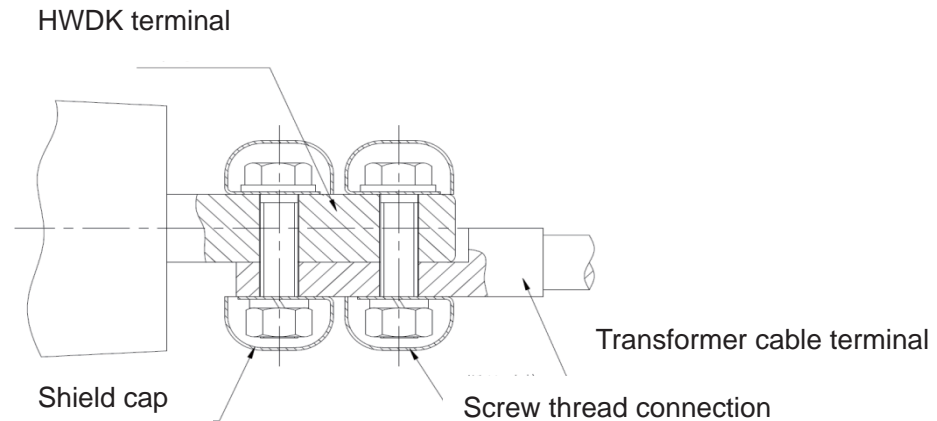

Figure 10
7.2.1 HWDK terminals are provided with a through-hole for M10 bolt, which is convenient for connecting transformer tap winding lead to the tap-changer connection terminals (tightening torque is about $30 \pm 10\% \text{ Nm}$). The screen caps provided are used for shielding M10 bolts and connecting nuts. (See Figure 10)